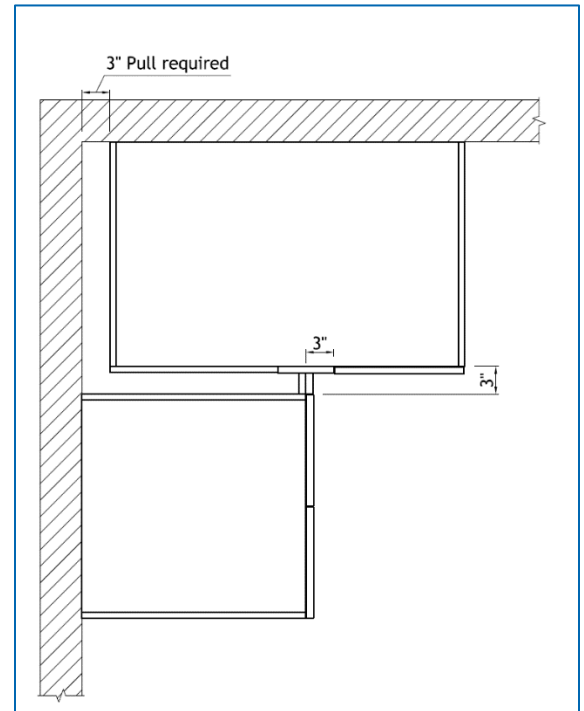

Figure 4
- Note that if you are using a blind base cabinet, then make sure you leave the correct pull from the wall before you place the cabinet. As standard Decor blind cabinets require a 3" pull. (figure 4) Reference designer's elevations to confirm.